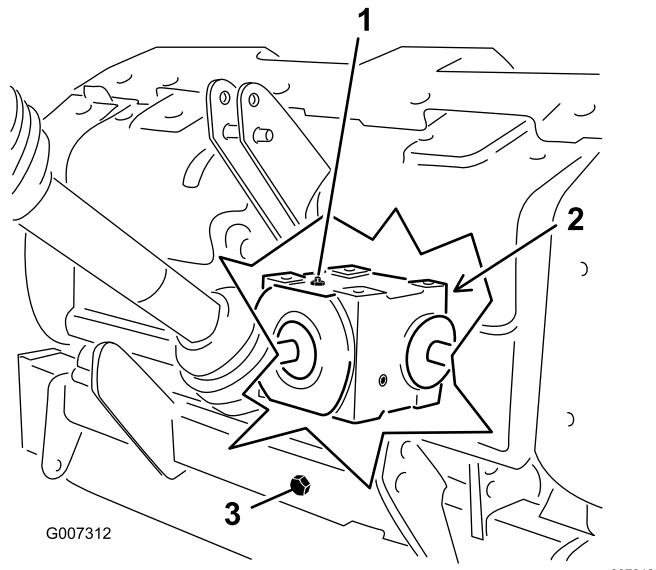

Figure 31
2. Remove the check plug from the gearbox (Figure 31).
3. Make sure that the oil level is up to the bottom of the check plug hole in gearbox (Figure 31).
1. Clean debris from the fill plug and the drain cap to avoid contamination (Figure 31).